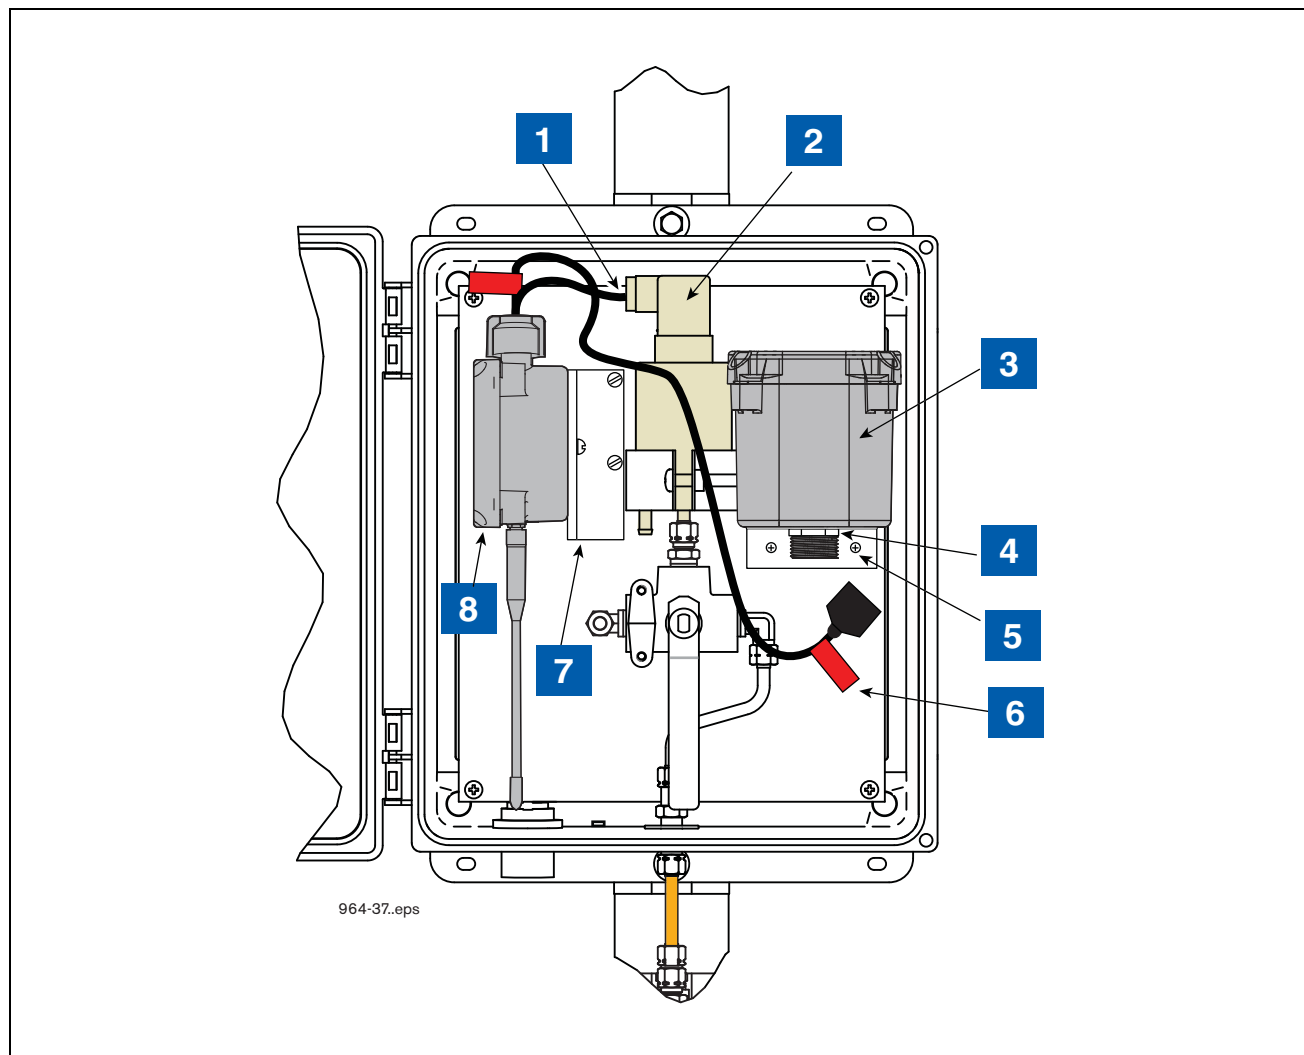

Figure 19. Example VRPS Transmitter/battery Pack Installation In The Universal Enclosure
5. Get the thin hex nut from the kit and screw it onto the battery housing cable connector threaded fitting until snug (see item 4 in Figure 19).
6. Attach the battery housing/bracket assembly to the back mounting surface of the Universal Enclosure using two #10 taptite screws from the kit (see item 5 in Figure 19).
LEGEND FOR NUMBERED BOXES IN Figure 19